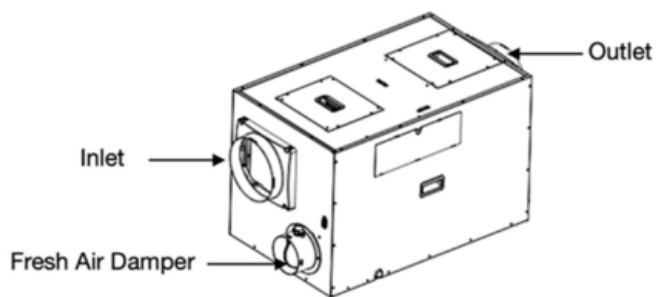
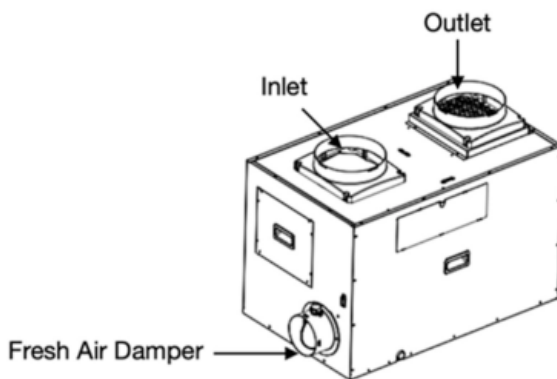
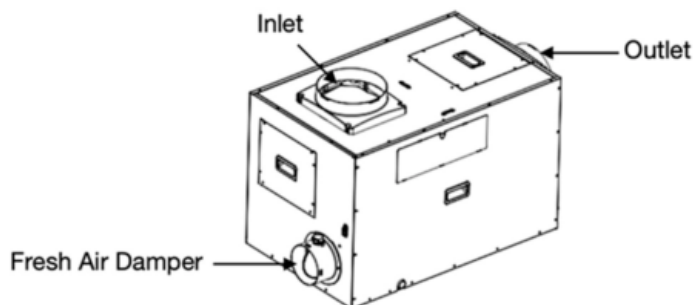
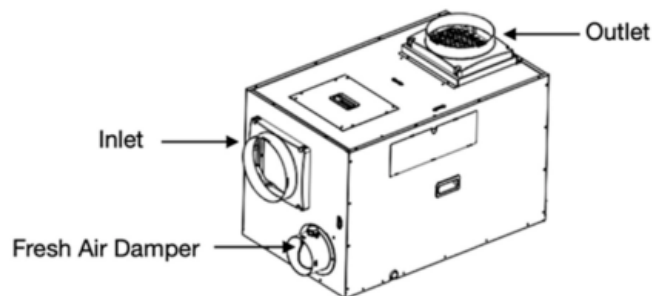

Figure 5
Figure 6
Figure 7
Figure 8
- b. For models **WH1500A** and **WH2000A**, Figure 5 shows the units as delivered. Figure 6 shows the supply side (outlet) and return side (inlet) duct adaptors changed to the vertical position. Figure 7 shows only the return side (inlet) duct adaptor changed to the vertical position. Figure 8 shows only the supply side (outlet) duct adaptor changed to the vertical position. To make either one of these changes follow the instructions below.